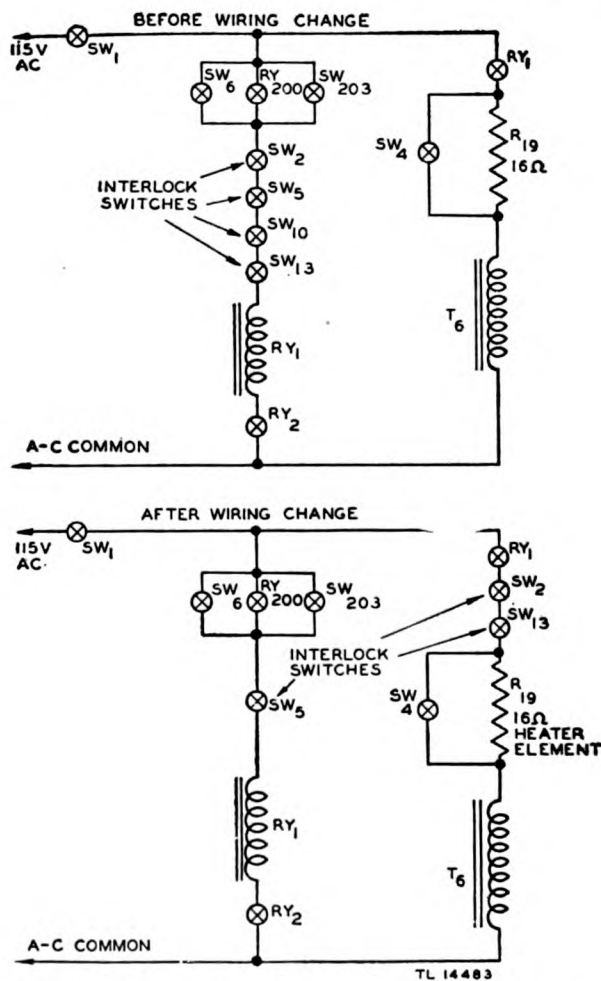

Figure 73. Interlock switches—functional diagram.
i. INTERLOCK SWITCHES SW₂, SW₅, SW₁₀, and SW₁₃ (fig. 73). Interlock switches are provided wherever opening a door or removing a cover of the transmitter exposes the operator to dangerously